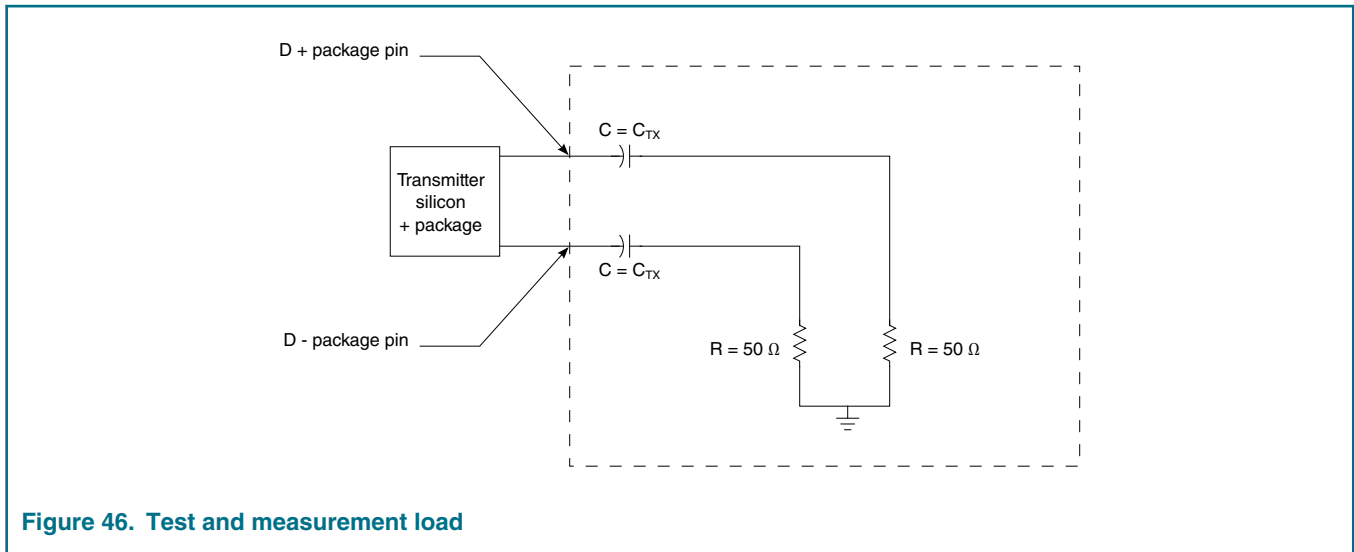

Figure 46. Test and measurement load
5. See Figure 46. on page 143.
1. Each UI is 200 ps ± 300 ppm. UI does not account for spread-spectrum clock dictated variations. 2. The maximum transmitter jitter can be derived as $T_{TX-MAX-JITTER} = 1 - T_{TX-EYE} = 0.25 \text{ UI}$. Does not include spread-spectrum or REFCLK jitter. Includes devices random jitter at 10^{-12} . 3. Specified at the measurement point into a timing and voltage test load and measured over any 250 consecutive transmitter Uis. 4. A $T_{TX-EYE} - 0.75 \text{ UI}$ provides for a a total sum of deterministic and random jitter budget of $T_{TX-JITTER-MAX} = 0.25 \text{ UI}$ for the transmitter collected over any 250 consecutive transmitter Uis. The $T_{TX-EYE-MEDIAN-to-MAX-JITTER}$ median is less than half of the total transmitter budget collected over any 250 consecutive transmitter Uis. It must be noted that the median is not the same as the mean. The jitter median describes the point in time where the number of jitter points on either side is approximately equal as opposed to the averaged time value. 5. See Figure 46 . on page 143. 6. Reference input clock RMS jitter (< 1.5 MHz) at pin < 1 ps. 7. All transmitters must be AC coupled. The AC coupling is required either within the media or within the transmitting component itself. 8. The chip's SerDes transmitter does not have C_{TX} built-in. An external AC coupling capacitor is required.